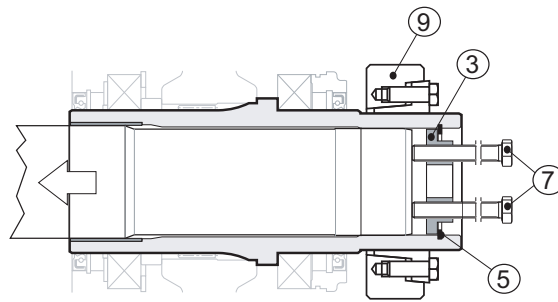

Fig. 23
Insert 2 bolts (pos. 7) into the two threaded holes on the plate (pos. 3) and screw them until they touch the machine shaft (pos. 1). Now give them alternately one full turn each (see Fig. 23 (p. 29)).